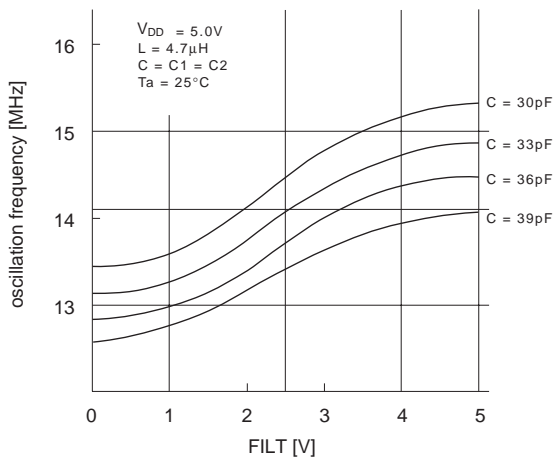

Figure 10 FILT-LC Oscillation Frequency (1)
* See Figures 10 and 11 for the oscillation frequency.
- Adjust the voltage of monitor point in Figure 10 to $1/2V_{\text{DD}} \pm 10\%$ by the LC oscillation constant 'L' or 'C' to lock the PLL circuit.